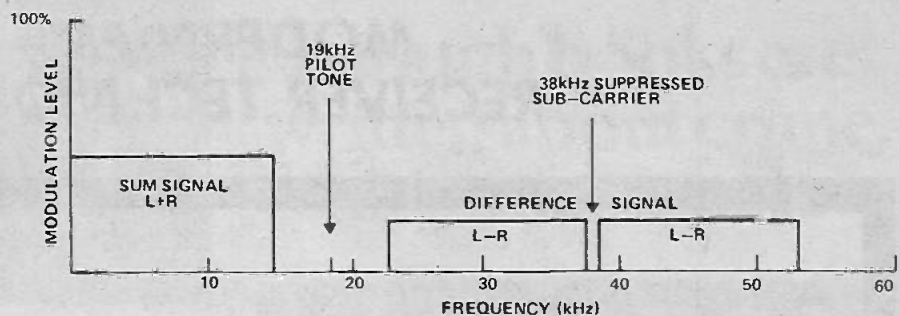

Fig. 20. The frequency spectrum of a stereo multiplex signal.
The demodulated signal is a multiplex one containing a number of separate parts as shown in Fig. 20. They are:
(1) The normal audio signal which has a waveform representing the sum of the signals in the left and right hand channels. If monaural reception is being employed, this sum signal is used as the audio output. As shown in Fig. 20, the maximum frequency of this signal is 5kHz.
(2) A low level 19kHz 'pilot tone' which is synchronised with a 38kHz sub-carrier. This pilot tone is required for the operation of the stereo decoder circuit.
(3) A 'left minus right' signal which is modulated onto a 38kHz sub-carrier. This signal is proportional to the sound amplitude in the left channel minus that in the right channel, the maximum frequency in each channel being 15kHz. Thus the modulated left minus right signal occupies a frequency band of $38 + 15$ kHz, that is from 23kHz to 53kHz as shown in Fig. 20. There is a small gap in this signal at 38kHz, since no audio frequencies below about 30Hz are transmitted.
(4) The 38kHz sub-carrier itself is suppressed at the transmitter to a level of not more than one per cent of the total signal.
It can be seen from Fig. 20 that a stereo signal requires a much greater bandwidth than a simple monaural signal. This inevitably means that at a given input level from the aerial the signal to noise ratio will be worse for stereo reception than for monaural reception — actually about 20dB worse.